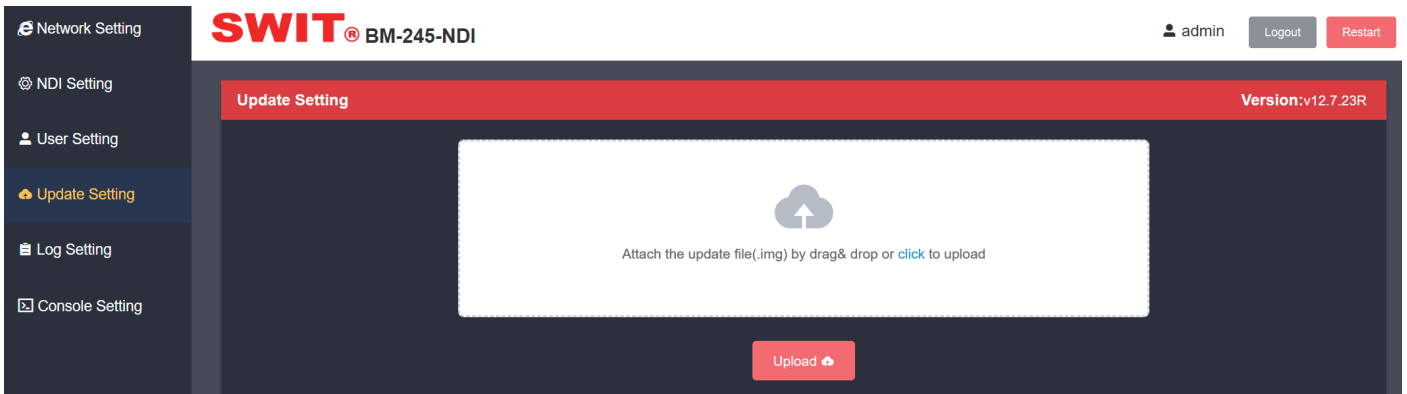

Fig.9
- If necessary, please log in the official website of Osev to obtain the upgrade package. See Figure 9 below for details.